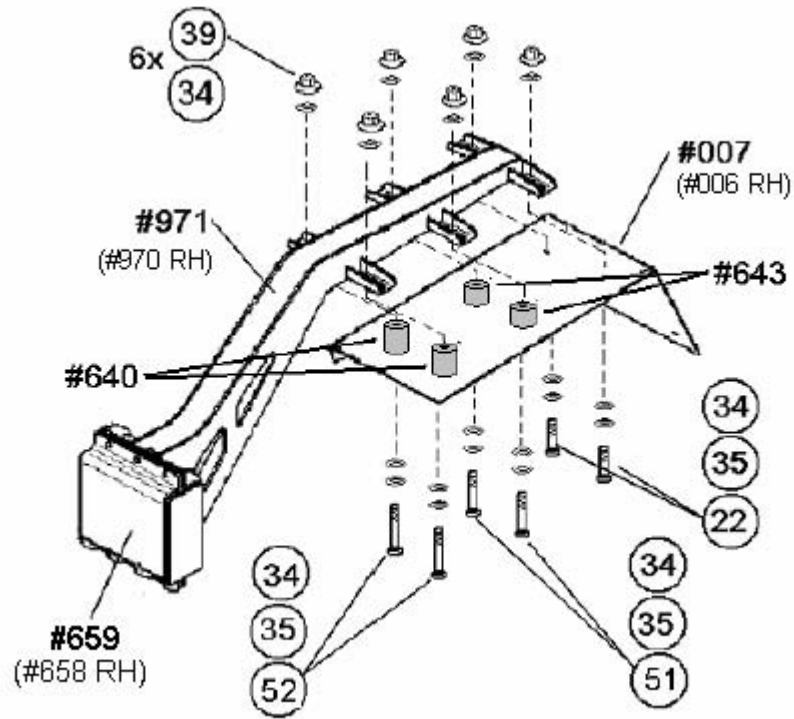

Figure 7-8. Wheel Housing.
4. Lift part #007 into position as shown in Figure 7-8. Insert the aft-most bolts (Item 22). Temporarily use the aft fasteners to hold the deflector in position. Install the center and forward fasteners next with the 113513-3 and 113513-1 spacers respectively (do not tighten the bolts until all fasteners are in place). Apply thread-locking compound to the bolts. Install the hardware in the following order: